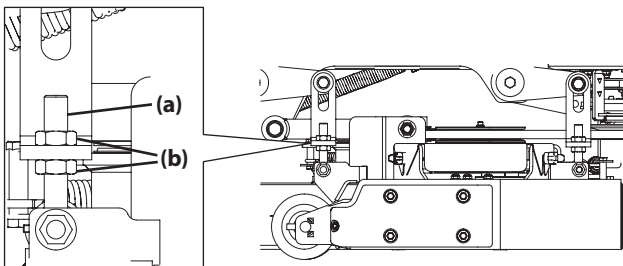

Figure 24
- Adjust the eyebolt (a) at the left front of the deck so that the blade-to-ground height at the right outside blade tip matches that of the left outside blade tip. This is done by loosening the jam nuts (b) on the eyebolt (a) and tightening the upper jam nut (b) to raise the deck and loosening the jam nut (b) to lower the deck. The right outer blade tip height is fixed by the right, front eyebolt (a) so you must adjust the left outer tip to match it (Figure 24).
- Loosen the jam nuts (b) at the rear left and right of the deck eyebolts (a) (Figure 24).